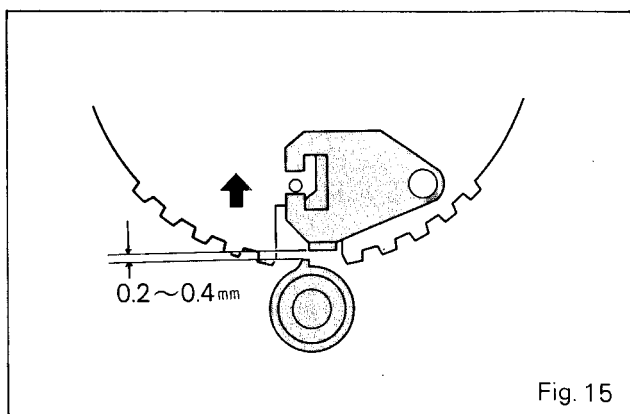

Fig. 15
- (1) Loosen the three screws which hold the turntable shaft.
- (2) Push ratchets A and BJ attached to the drive gear as far as possible in the direction of the arrow shown in Fig. 15.
- (3) Move the turntable shaft so that the gap between the turntable gear and ratchet A becomes as shown in Fig. 15. and tighten the screws.
- (4) Turn the turntable shaft by hand to make sure the turntable gear and ratchet A do not touch each other. If they come in contact, move the turntable shaft slightly forward.
Keep the gap between the turntable and ratchet to the dimensions shown in Fig. 15,
Remove the turntable platter and check to see that the clearance between gear of center shaft and ratchet is reasonable. (Fig. 15)